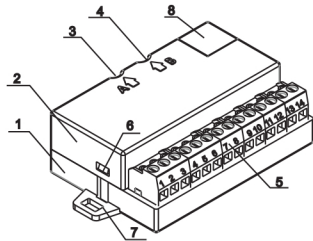

Fig. 1 - Picture of input/output device
The Input-Output device FD7203 (fig.1) is designated to produce and send an electrical signal to various devices in case of occurred events and recording external impacts, typical for a fire condition events. The device is compatible with addressable fire control panels IFS7002, supplementing the possibilities of the addressable systems of series IFS7000.
The device consists of a printed board with elements, mounted on a plastic base (pos.1, fig.1) and closed by a cover (pos.2, fig.1). The base has an implemented terminal bus (pos.5, fig.1), through which cables connect the addressable loop, the power supply and etc.
Two LED indicators are built-in the device (pos.3 and 4, fig.1) illuminated in yellow (A) and red (B) light, providing device status information.
LED indication (pos.3 and 4, fig.1) is providing information for the device condition as follows:
1.2. Open the cover (pos.8, fig.1), under which is situated the four positional switcher.
1.6. Fix the device to the chosen for that purpose place (pos.7, fig.1).
The cables are assigned through terminal bus (pos.5, fig.1).